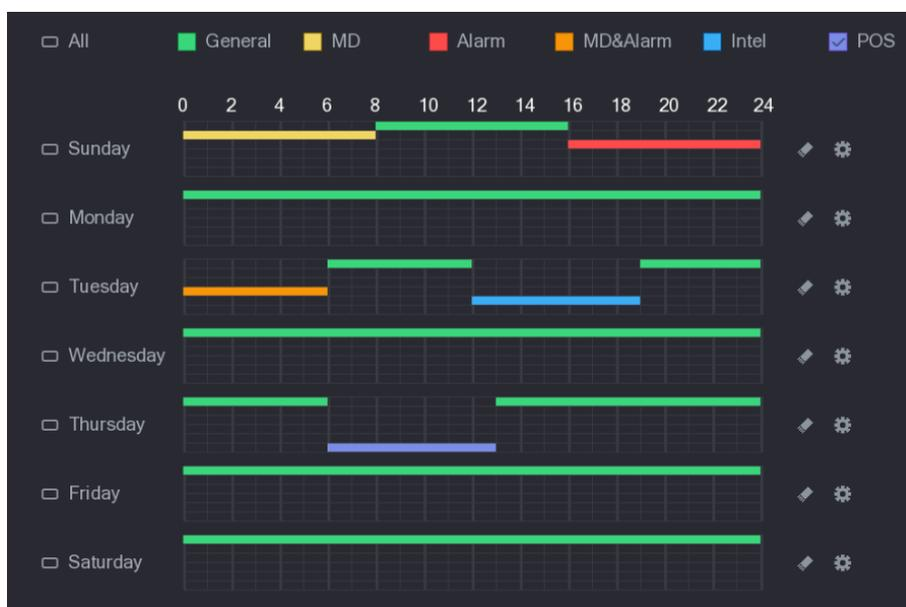

Figure 5-26
- On the timeline, drag to define a period. The Device starts recoding the selected event type in the defined period. See Figure 5-26.